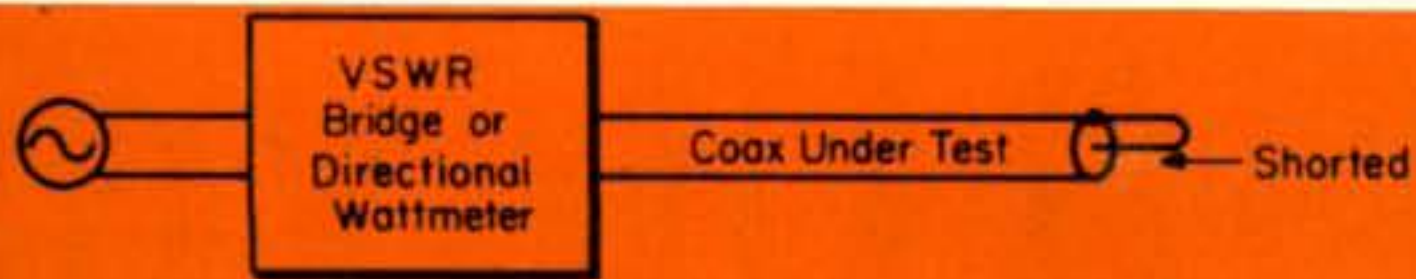

Fig. 1—Simple set-up needed to determine the loss in db in a length of coaxial cable.
Relating to *both* the SB-110 and SB-110A, an error should be corrected in the circuit diagram at fig. 1 of the modification article. The right-hand arm of the d.p.d.t. switch should go to the *bottom* end of the 0.1 mf 75 v. discapacitor, instead of to the top end. This is *correctly* shown in the pictorial wiring diagram at fig. 5 on page 13 of the article.—W2AEF
To measure the loss of a length of coaxial cable the equipment is set up as shown in fig. 1 where we see the generator feeding a length of transmission line through an s.w.r. bridge with the line terminated in a short. If the input power is known and the reflected power is measured, formula (2) can be used to calculate the line loss.
Fig. 2—The above chart enables the rapid determination of the loss of a line in db from the s.w.r. reading taken in the set-up shown in fig. 1. For s.w.r. readings of less than 2.5:1 the dotted line should be used rather than the actual solid plot.